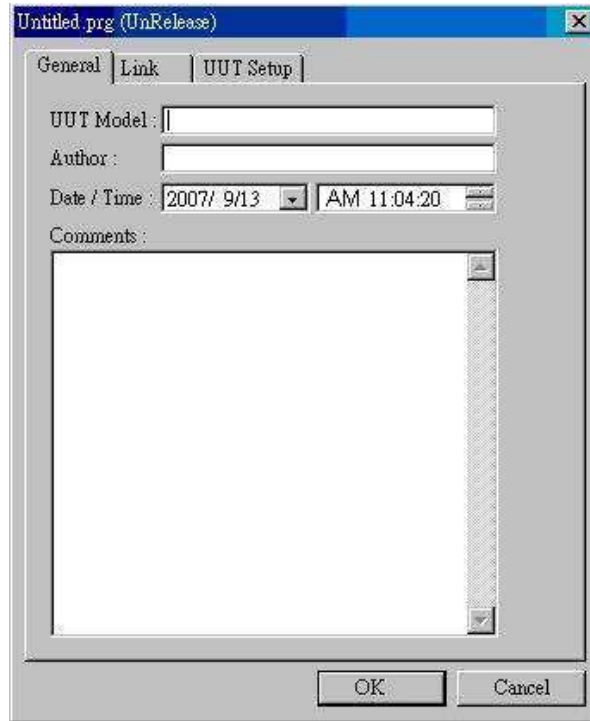
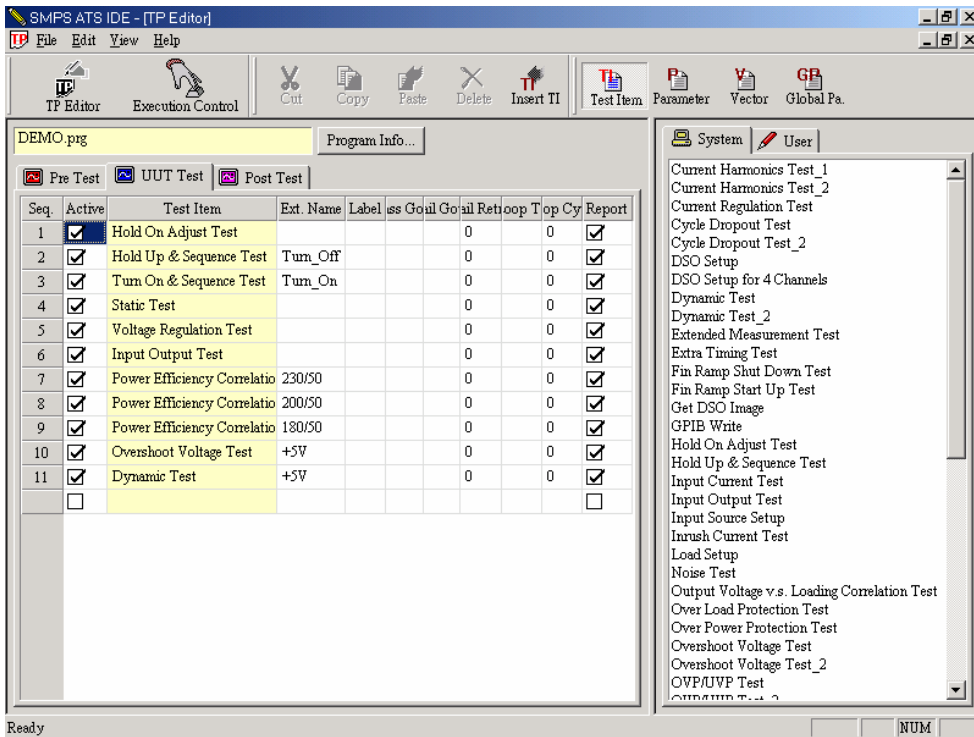

Figure 5-2 Test Program Information Dialog Box
Figure 5-4 Test Program Editor Screen
If you select 'Create new TP' option, or click **Program Info...** in the test item editor, the dialog box of Figure 5-2 will show up. It will ask you to enter the information for the new test program. Here explains the major items.
The main menu contains two parts as shown in Figure 5-4. The left part is test item editing area, where the name of the edited test program shows on its top. If the program name has (*) in it, it indicates the program has been modified but not yet saved. Click **Program Info...** will show the *Test Program Information Dialog Box* as Figure 5-2. There are three tabs, [Pre Test], [UUT Test] and [Post Test] under the test program. The test program execution will follow this sequence.
The way to edit 'Load Vector' is similar to the above. The major difference is that the Load Vector number (the loading of each channel) is set following the Total Load Numbers in Figure 5-2 Test Program Dialog Box.
changes following the Total Load Numbers set in Figure 5-2 Test Program Dialog Box. For the Global Parameter belongs to Load you need to enter a value per Channel, and for those not belong to Load you only need to enter one value and the rest of the cells will turn gray.
For Load parameter, you need to input a value for every Channel if it is Array type. Due to space restriction, the column is extended to above of the screen, and the column number is the Total Load Numbers defined in Figure 5-2 *Test Program Information Dialog Box*. Please click the column that displays 'Click here'; then point to the column above the screen and start editing the parameters.
1. The contents in Figure 5-2 Test Program Information Dialog Box.